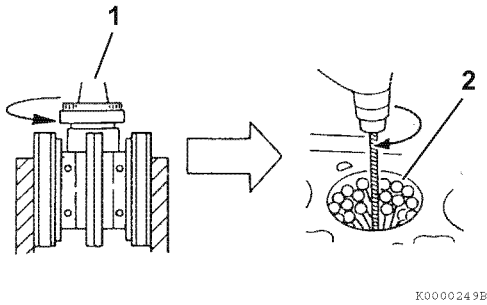

Figure 6-129
2. **Honing** - Minor cylinder imperfections may be corrected by using a rigid cylinder hone (**Figure 6-129, (1)**). Be sure not to exceed the maximum cylinder bore specification.
**Deglazing** - A used cylinder that did not require boring or honing, should always be deglazed with a ball hone (**Figure 6-129, (2)**) before installing new piston rings. This will properly prepare the cylinder surface to allow new piston rings to seat properly.
- Use a 300-grit hone at 300 - 1200 min-1 (rpm) (Figure 6-129).